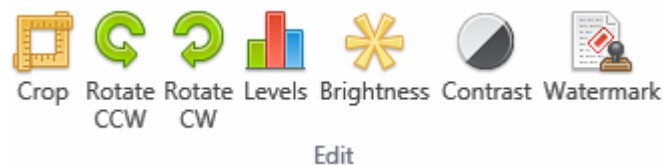

Figure 13.
- Click the “Crop” button (Fig. 13).